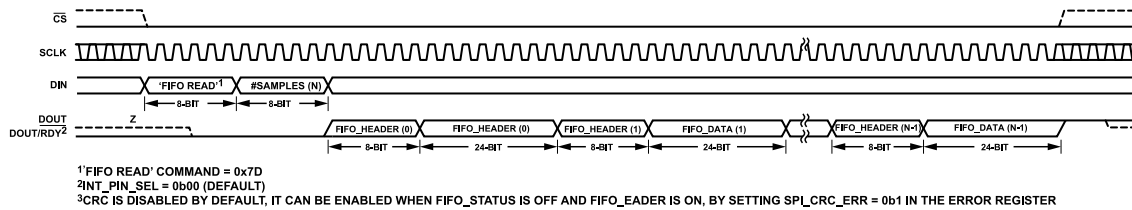
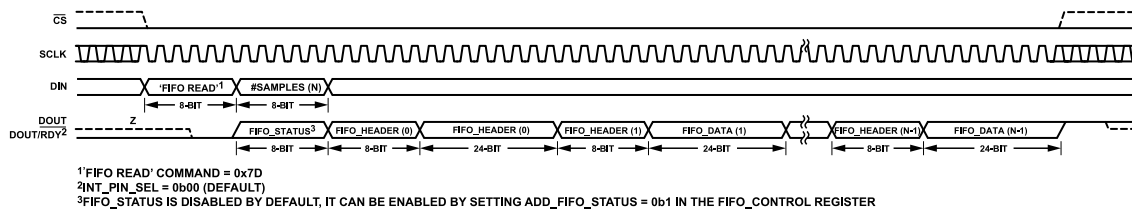

Figure 102. FIFO Readback Default (FIFO_STATUS Append Off and FIFO_HEADER Append On)
Figure 103. FIFO Readback (FIFO_STATUS Append On and FIFO_HEADER Append On)
By default, the FIFO_HEADER is enabled and the FIFO_STATUS append is disabled. Therefore, the FIFO readback diagram looks like Figure 102. If the FIFO_STATUS append is enabled, the FIFO readback diagram looks like Figure 103.
The FIFO_STATUS register content (see Table 69) can be enabled to be added and read before the FIFO_DATA and during the # samples (N) byte (see Figure 103), by setting ADD_FIFO_STATUS bit to 1 in the FIFO_CONTROL register (see Table 67). This way, the user can detect an error earlier on and abort the FIFO_DATA readback.